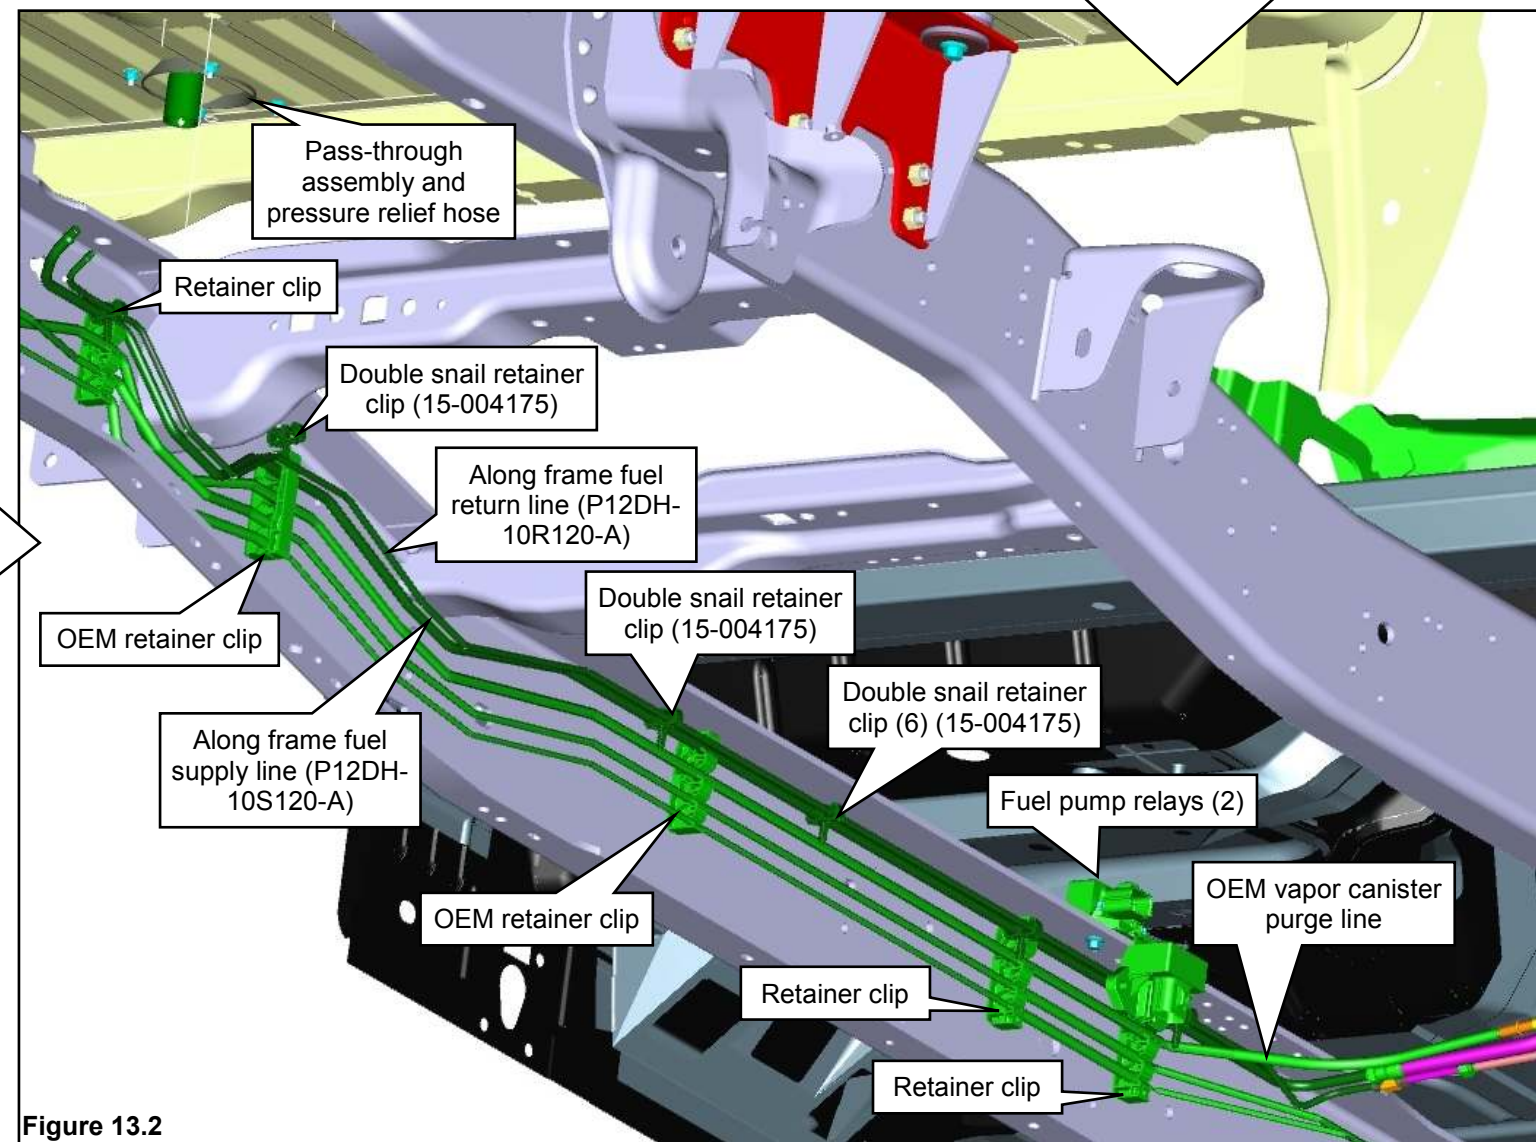

Figure 13.2
3. Install the along frame fuel return line against the fuel supply line and secure it to the supply line using six double snail retainer clips. **Note:** The along frame fuel return line should pass behind the EFPR. **Figures 13.2.**
4. Connect the along frame fuel return line into the quick-connect fitting of the forward fuel return line. **Figures 13.2 and 13.3.**